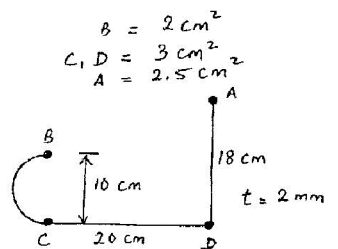

Fig. 2 Qn. 12 (a)
12. (a) Determine the shear center location for the section shown in Fig. 2. All the webs are ineffective in bending.